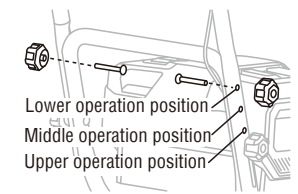

Fig. 2C
3. There are three height adjustment holes in the handle, select the preferred operating position according to your height. (Fig.2C)
1. Loosen the two upper locking knobs and remove the two bolts (Fig.2C). Save them for reassembly.